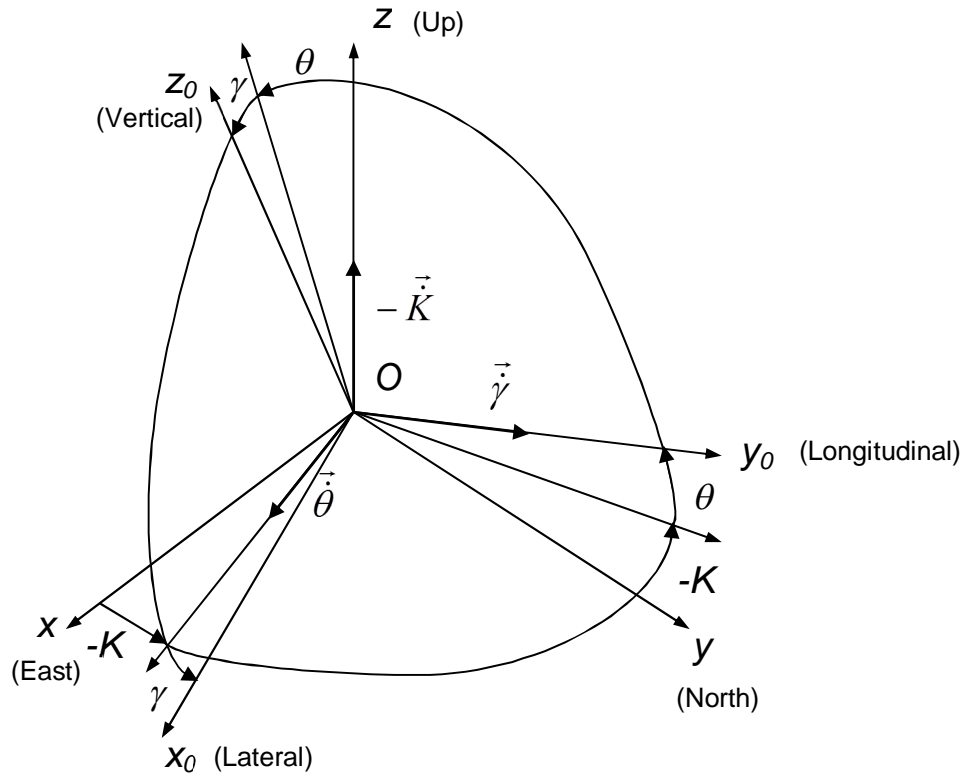

Fig.D.1. Transformation of coordinate systems
Measured angles are the standard Euler angles of rotation from the Earth-level frame to the object frame: heading K is first, then pitch θ , and then roll γ -- see Fig.D.1.
1. Positive direction of heading is clock-wise. So heading K is shown with minus sign on Fig.D.1.
Directional cosine matrix (DCM) is the rotation matrix \mathbf{C} from the object body reference frame $Ox_0y_0z_0$ to the geographical reference frame $Oxyz$. According to Fig.D.1, DCM can be represented through Euler angles as